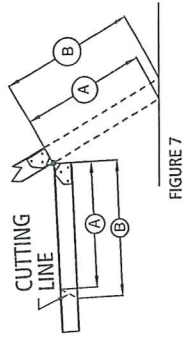

FIGURE 7
B. With a straight edge, measure distances from middle section to floor, for both A & B lengths (figure 7).
D. Transfer these dimensions to the bottom section of the ladder right and left rails and draw a cutting line between the two points. Trim bottom section to length using wood saw (figure 7).
- B. Transfer cut length dimensions from table 4 to the bottom section of the ladder right and left rails and draw a cutting line between the two points. Trim bottom section to length using a metal cutting saw (figure 7).